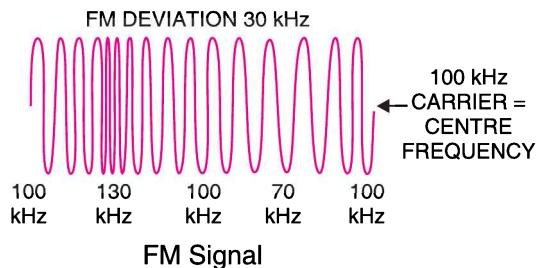

Fig. 16.13
Illustration. The process of frequency modulation (FM) can be made more illustrative if we consider numerical values. Fig. 16.13 shows the FM signal having carrier frequency $f_c = 100 \text{ kHz}$. Note that FM signal has constant amplitude but varying frequencies above and below the carrier frequency of $100 \text{ kHz} (=f_c)$. For this reason, $f_c (=100 \text{ kHz})$ is called *centre frequency*. The changes in the carrier frequency are produced by the audio-modulating signal. The amount of change in frequency from $f_c (=100 \text{ kHz})$ or *frequency deviation* depends upon the amplitude of the audio-modulating signal. The frequency deviation increases with the increase in the modulating signal and vice-versa. Thus the peak audio voltage will produce maximum frequency deviation. Referring to Fig. 16.13, the centre frequency is 100 kHz and the maximum frequency deviation is 30 kHz . The following points about frequency modulation (FM) may be noted carefully :